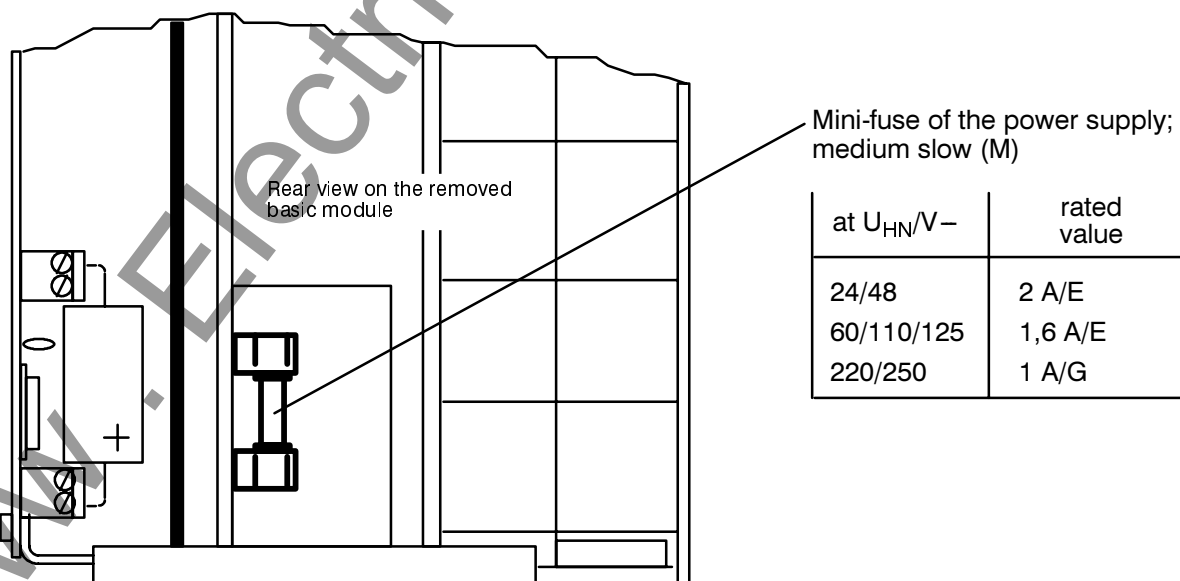

Figure 7.4 Mini-fuse of the power supply
- Has the mini-fuse in the power supply section blown (see Figure 7.4)? If appropriate, replace the fuse according to Section 7.3.1.
- Select a replacement fuse  $5 \times 20$  mm. Ensure that the rated value, time lag (medium slow) and code letters are correct. (Figure 7.4).
- Remove blown fuse from the holder (Figure 7.4).
- Fit new fuse into the holder (Figure 7.4).